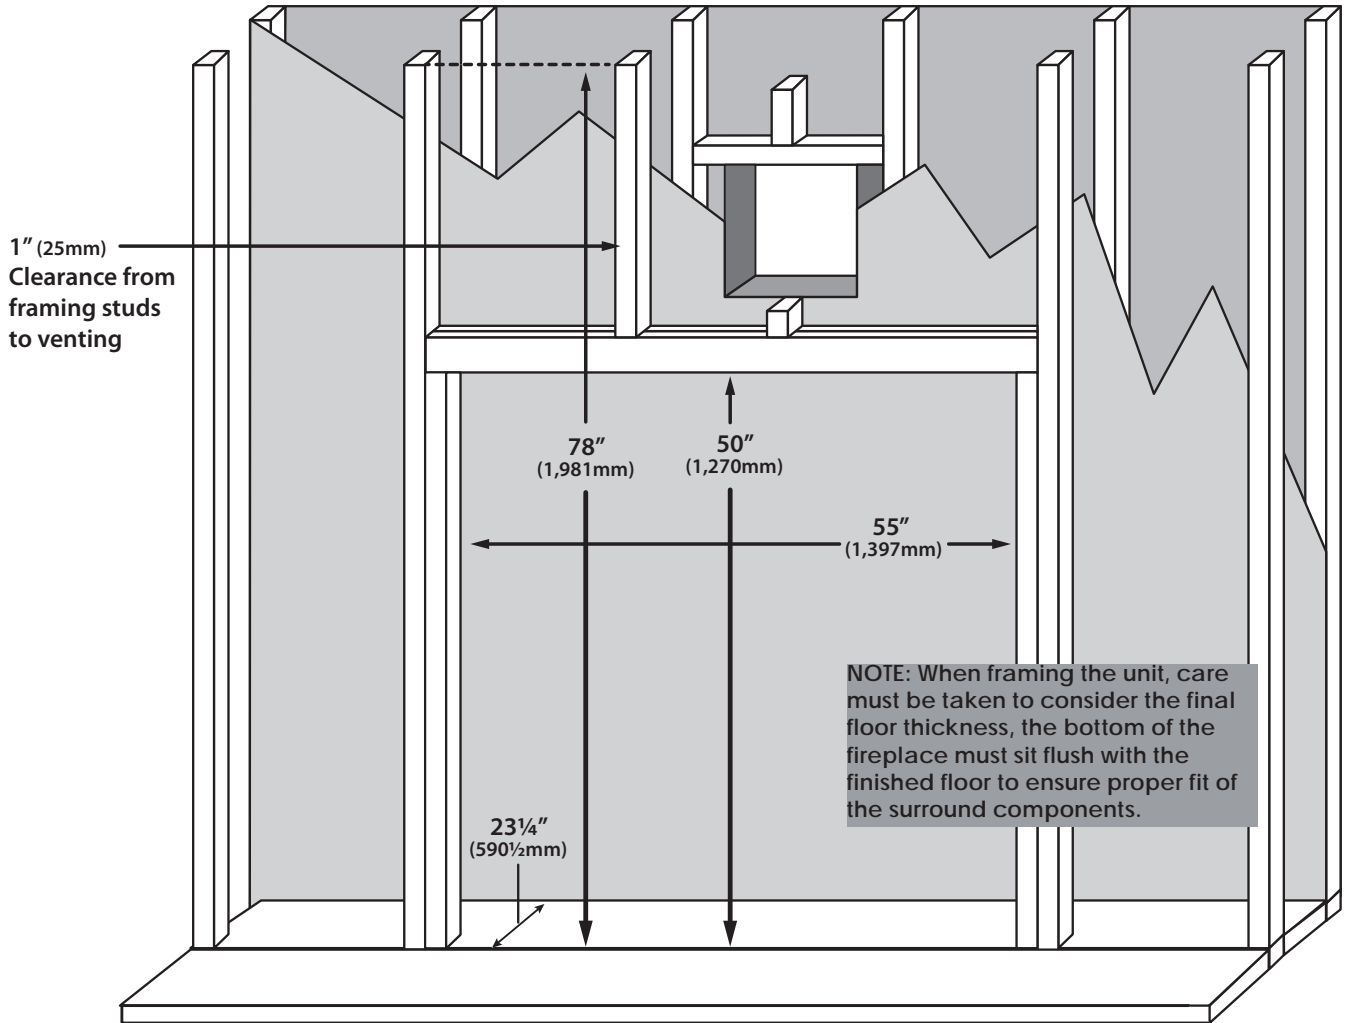
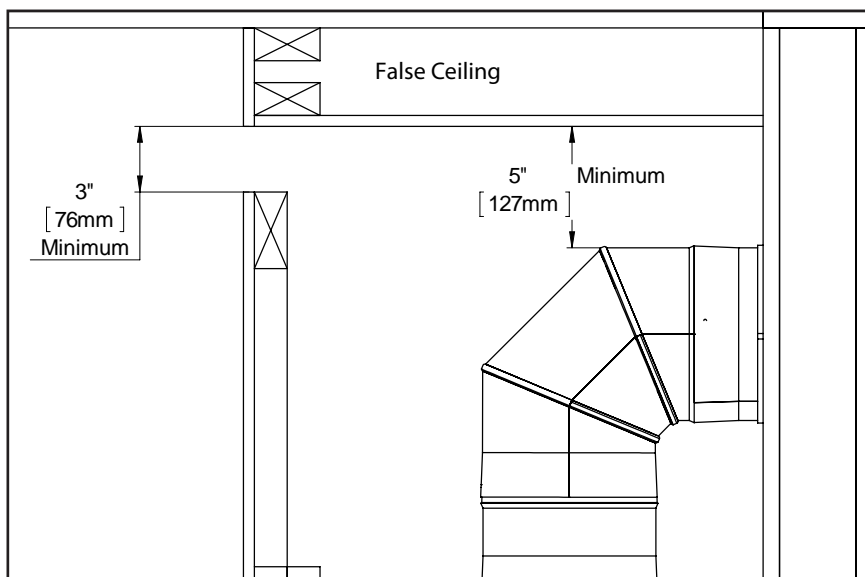

Figure 42: G50 Minimum Framing
Figure 55: False Ceiling
The location for the fireplace can be raised, at floor level, or installed in a corner. There are minimum framing measurements for each situation. The basic rough opening should have the following dimensions (see Figure 42). The fireplace must be placed on a strong and level surface.
**Optional: False Ceiling** - If your ceiling dimension is greater than the minimum (See figure 42) You may want the CSS Air discharge lower on the wall. To do this a false ceiling is required to properly evacuate the heat from the chase. (See Figure 55).